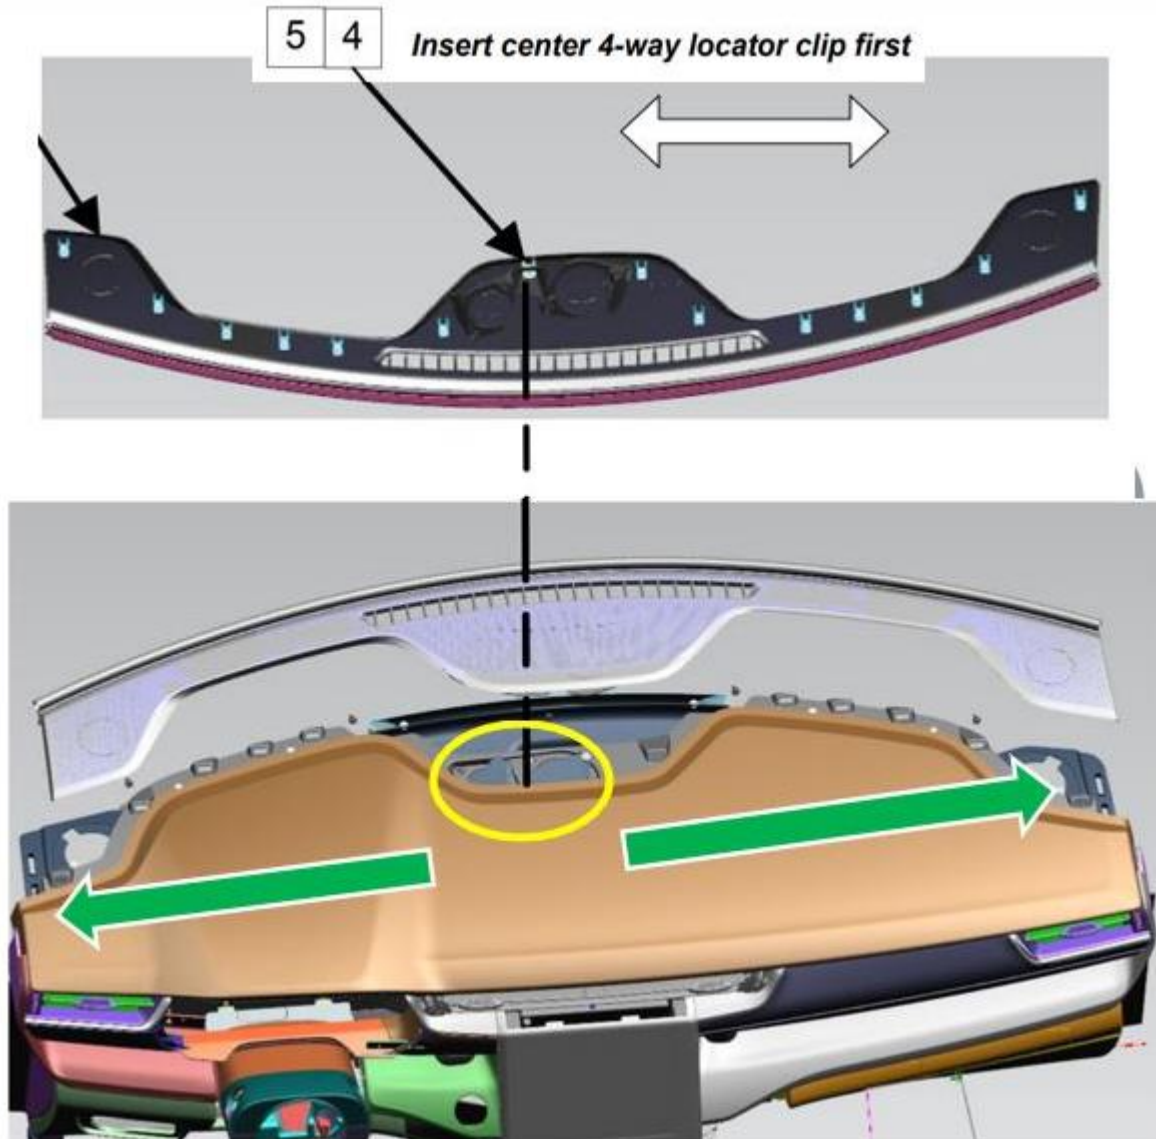

Fig 4.
- 10.) Reinstall the defroster grille by starting with the center 4-way locator. This clip is in the center left of the defroster grille. (Fig 4)